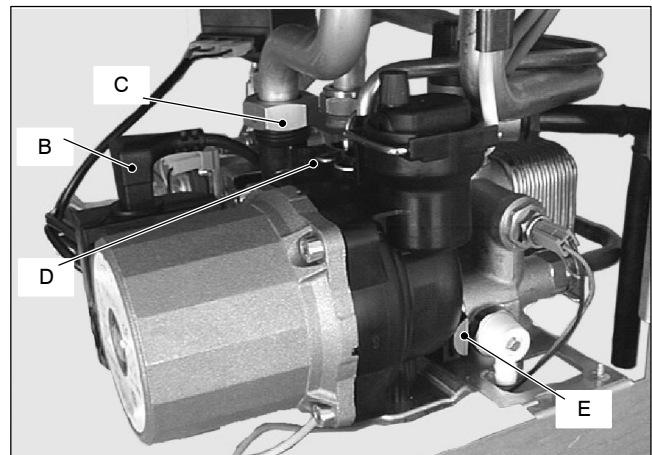

Fig. 18
With the boiler off, remove the front panel and disconnect the connector B (Fig. 18).
- 4 Disconnect the connector B (Fig. 18).
- 7 Remove the locking plate E right (Fig. 18).